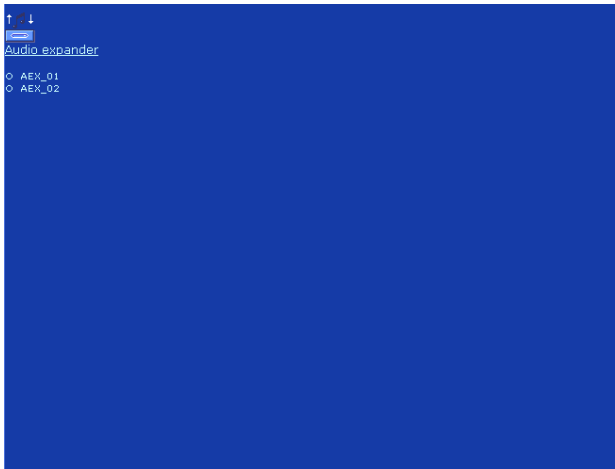

figure 34.30: Configure audio expander, step 1
- 1 Go to *Configure > Equipment configuration > Audio expander*. A screen similar to the one in figure 34.30 appears in the main frame of the web interface.